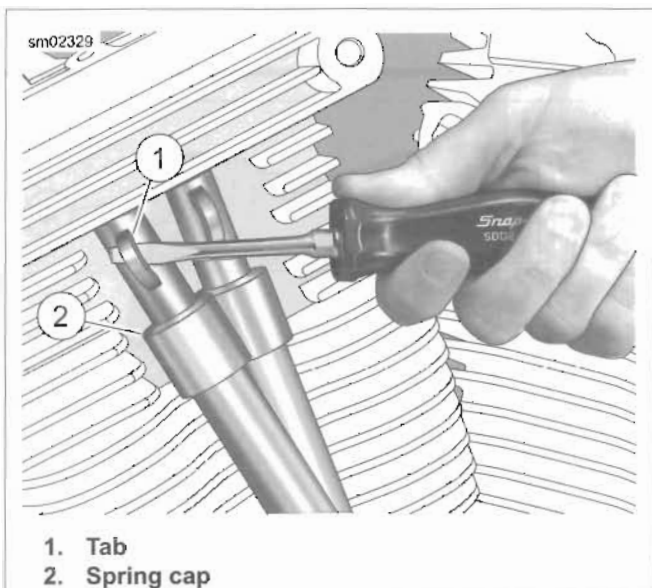

Figure 3-18. Removing Spring Cap Retainer
1. See Figure 3-18. Insert the blade of a small screwdriver into tab (1) of spring cap retainer. While pushing down on spring cap (2), rotate bottom of screwdriver toward out-board side to remove. Repeat step on second pushrod cover.